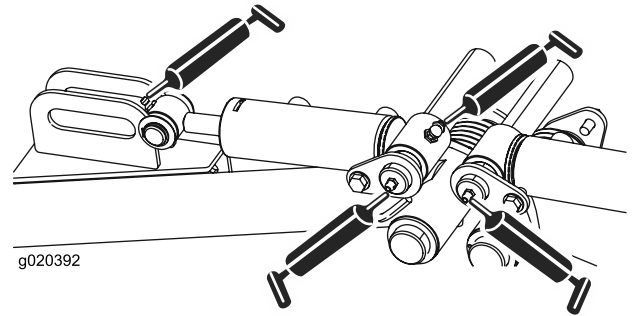

Figure 44
- Rear lift arm pivots and lift cylinders (3 ea.) (Figure 44)